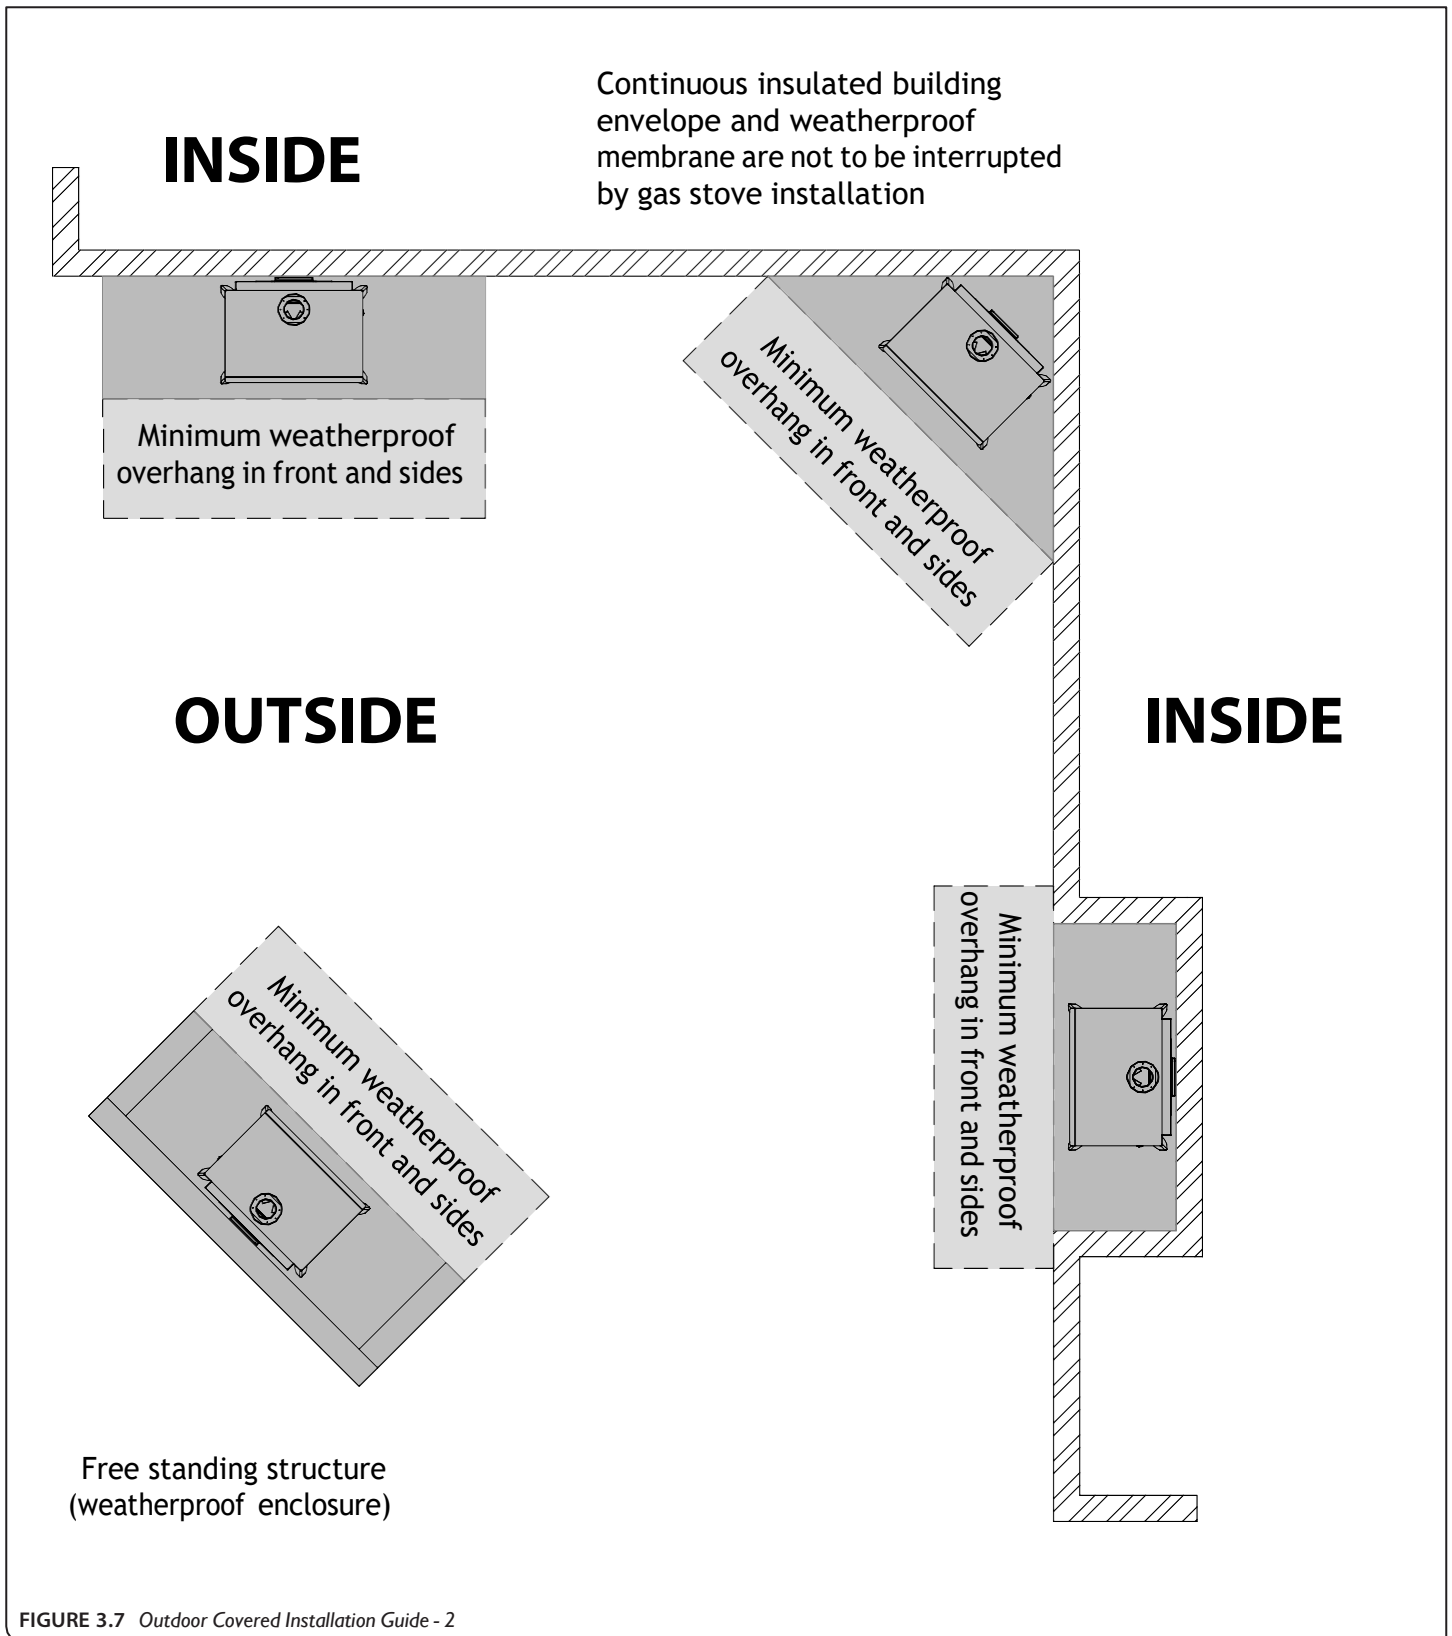

FIGURE 3.7 Outdoor Covered Installation Guide - 2
- The continuous insulated building envelope and weatherproof membrane are not to be interrupted by gas stove installation. See FIGURE 3.7 on page 17.